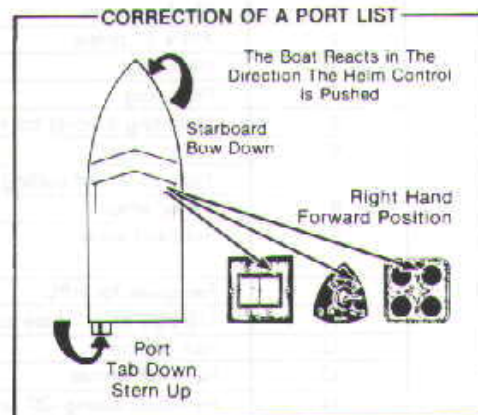

Figure 4
**Correction of a list**—Bennett Trim Tabs are operated individually to correct a listing condition. Regardless of the helm control model, the trim tabs adjust the boat's attitude in the direction the helm control is pushed. If the port bow is high, push the left hand "BOW DOWN" direction on your helm control and the port bow lowers. If the starboard bow is high, push the right-hand "BOW DOWN" direction and the starboard bow lowers. Do not think about what the trim tabs are doing, just concentrate on your helm control (figure 4). Note: The boat should be trimmed fore and aft before correcting for a list.